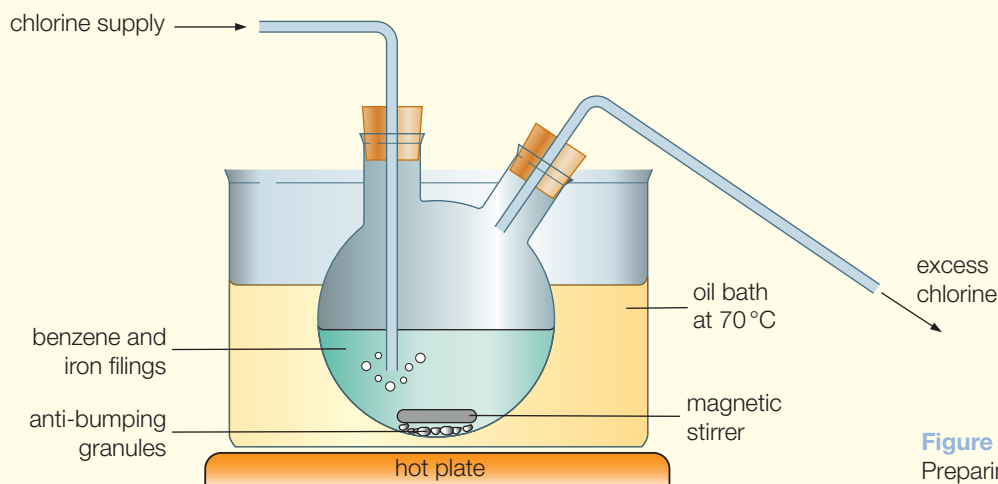

Figure 1.22 ◀
Figure 1.22 shows the apparatus which might once have been used to prepare chlorobenzene by heating benzene with chlorine gas in the presence of iron filings. This preparation is now banned in teaching laboratories in schools and colleges.
- 5** The reaction shown in Figure 1.22 is just as effective if aluminium chloride or iron(III) chloride is used in place of iron. These three substances (Fe , FeBr_3 and AlCl_3) are often described as 'catalysts' and 'halogen carriers'.